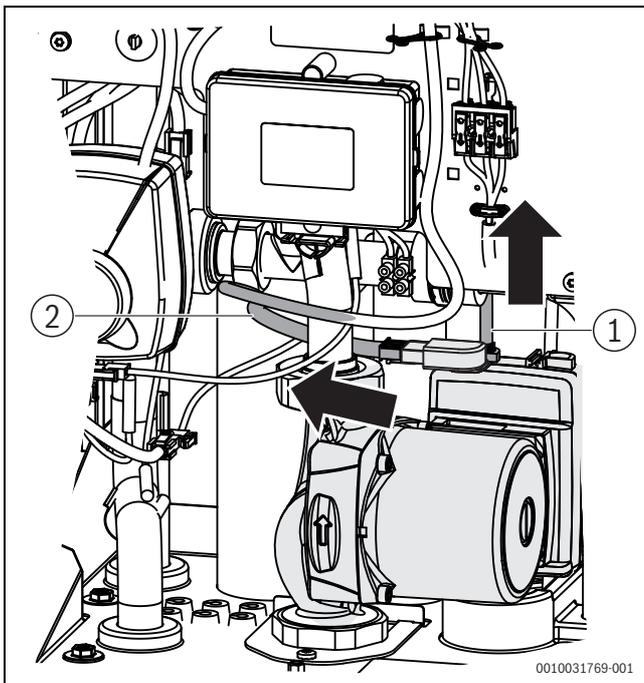

Fig. 41 Unplug the plug
- ▶ Pull off 2 plugs (power supply and signal) on the pump (→ Fig. 41).